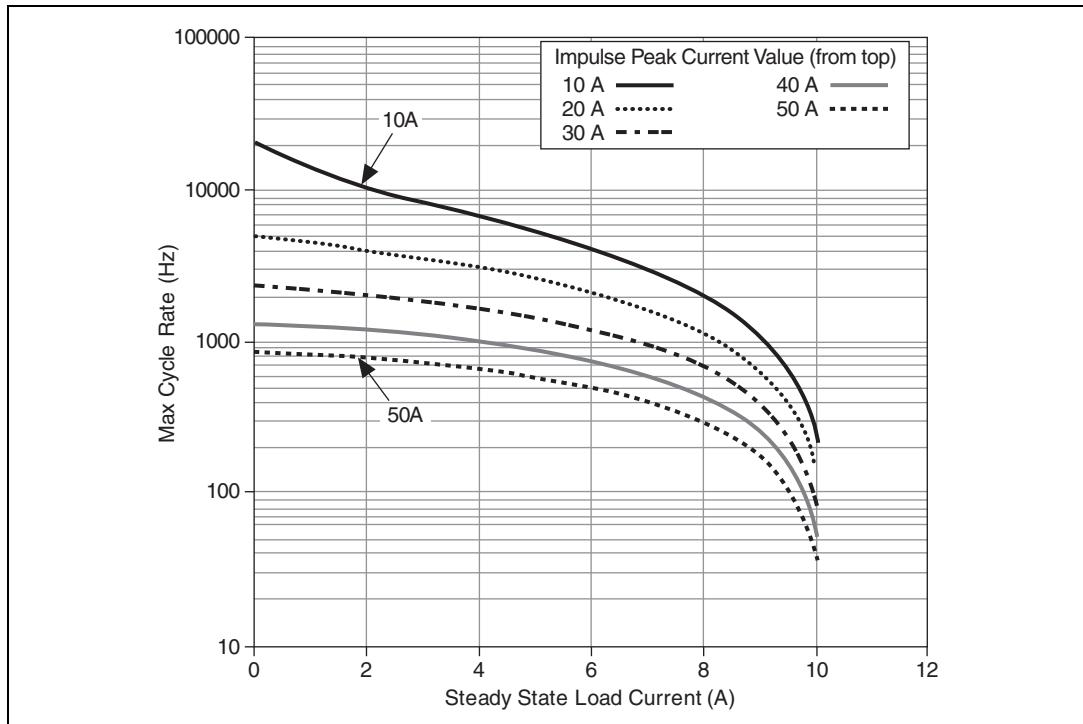
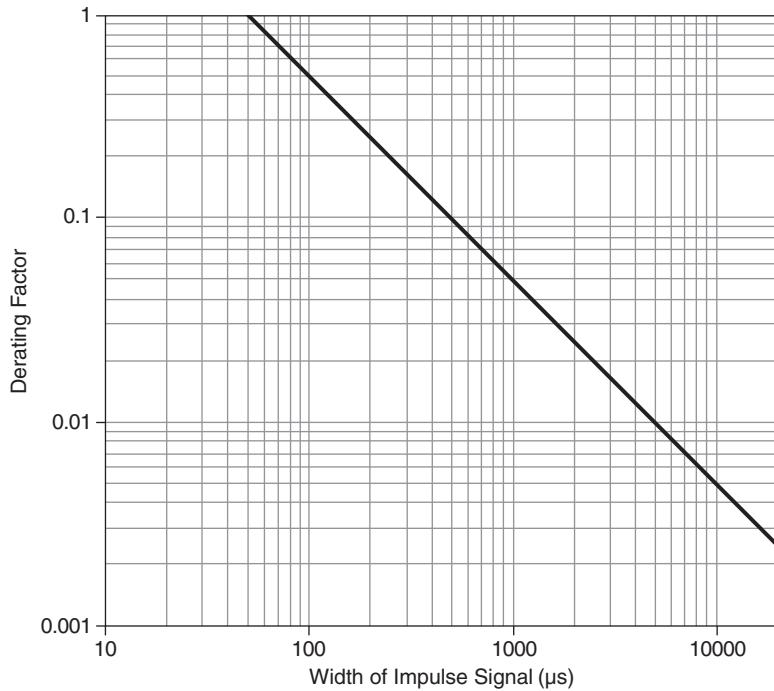

Figure 2. Maximum Cycle Rate
Figure 3. Maximum Cycle Rate Derating Factor by Pulse Width
Note Overtemperature conditions are created when excessive power is dissipated in the channel paths such as when switching large impulses created by switching into capacitive or inductive loads or when switching a signal at a higher rate than the module dissipates the generated heat. Refer to Figures 2 and 3 for information about the maximum cycle rate.
Complete the following steps and use Figures 2 and 3 to determine the maximum cycle rate at which a channel can be switched when the peak impulse current value and duration are known.
1. Using Figure 2, choose the graph line that meets or exceeds the peak inrush current value of the signal being switched. Find the point on the trace that equates to the steady state current being switched by the load.
3. Using Figure 3, find the point on the graph that corresponds to the measured pulse width of the inrush current pulse. Find the corresponding derating factor. Then calculate the maximum cycle rate using the following equation:
For switching a steady state current of 4 A into a load with peak inrush current of 45 A that lasts for 400 μ s, choose the 50 A graph line in Figure 2. Find the y-axis value that corresponds to the 4 A load current (650 Hz). Then find the derating factor in Figure 3 that corresponds to 400 μ s (0.1).